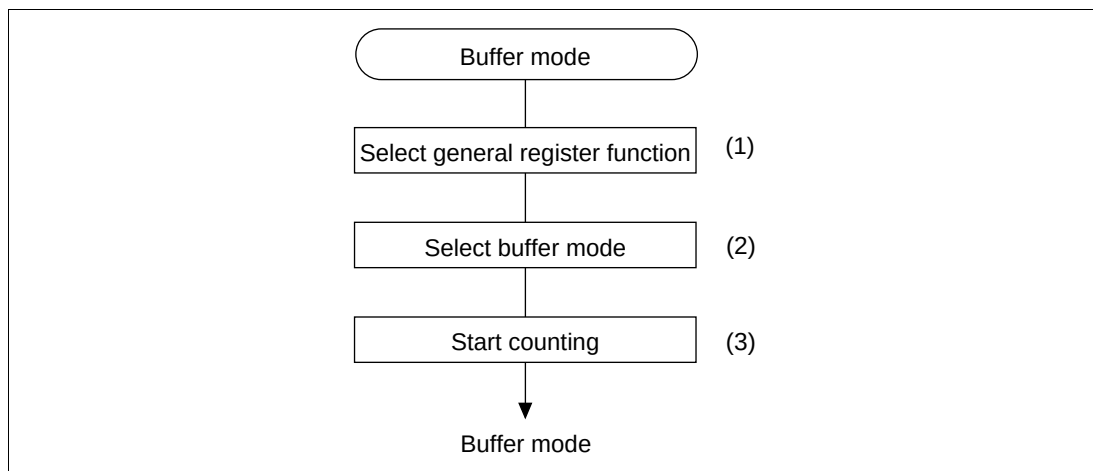

**Figure 10.47 Procedure for Selecting Buffer Mode**
**Procedure for Selecting Buffer Mode (Figure 10.47):**